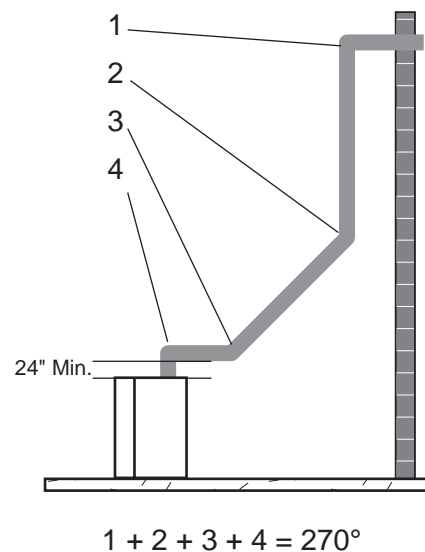

Figure 15 - Maximum Elbow Usage
- The maximum number of 45° elbows permitted per side wall installation is two (2). These elbows can be installed in either the vertical or horizontal run.
- The maximum number of elbow degrees in a system is 270°. See Figure 15.